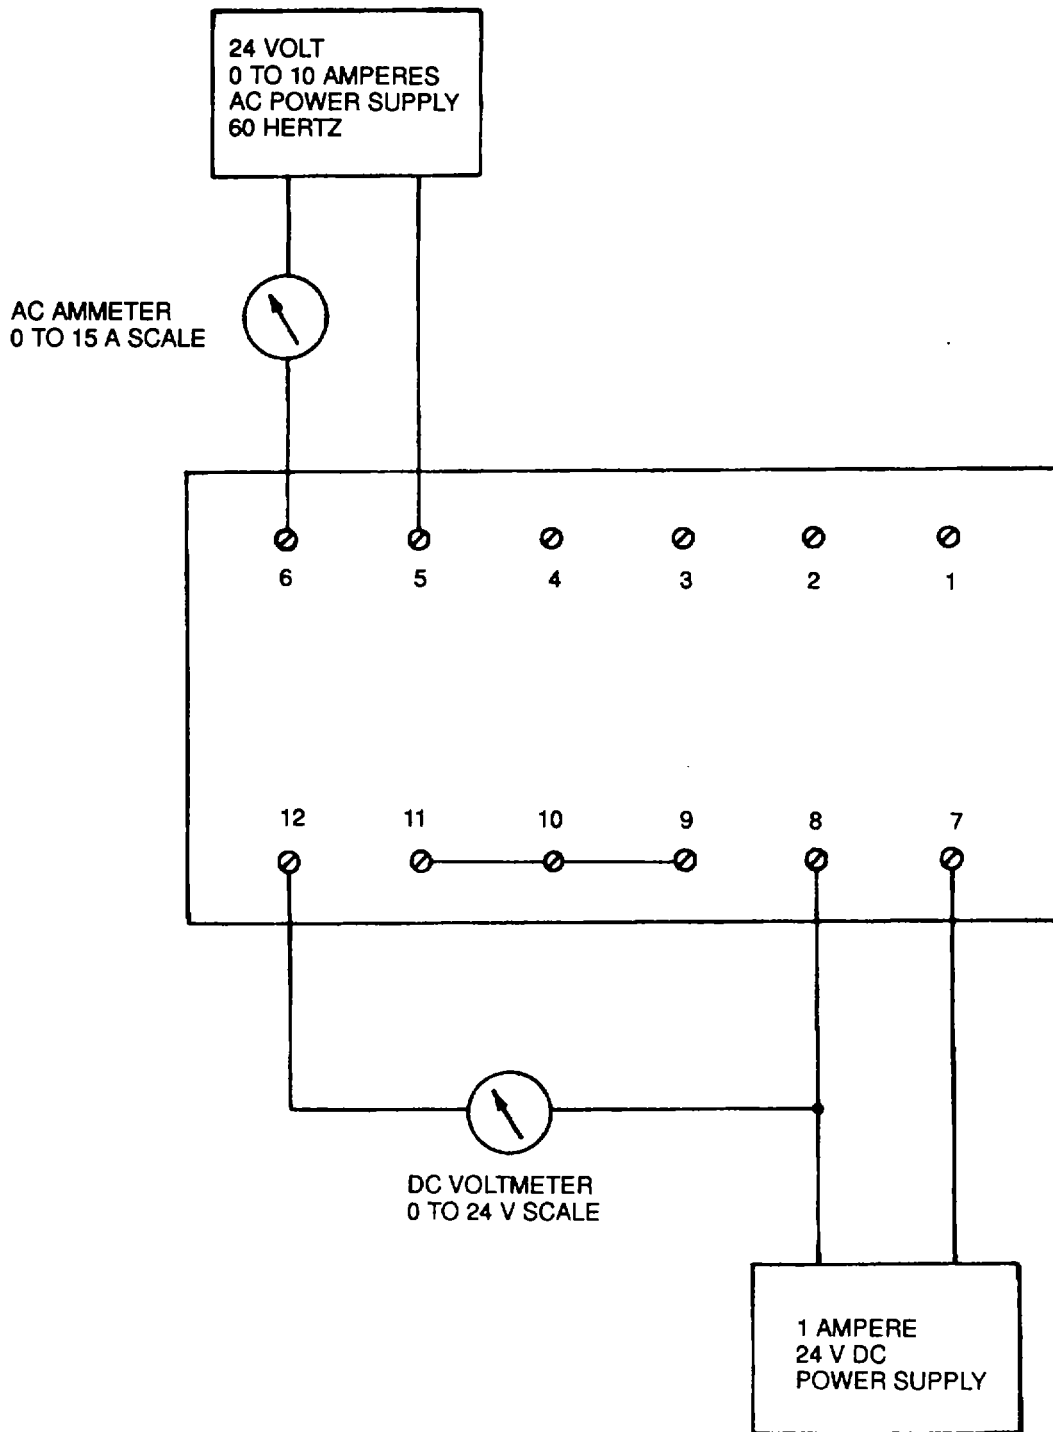

Figure 5-30. Test Setup, Overcurrent Relay K114
- (1) Tag and disconnect wiring from overcurrent relay K114 (65).
- (2) Remove four screws (66) from rear of panel and carefully slide overcurrent relay K114 (65) free from front of panel.
c. Test. See Figure 5-30.
(1) Preparation for bench test.